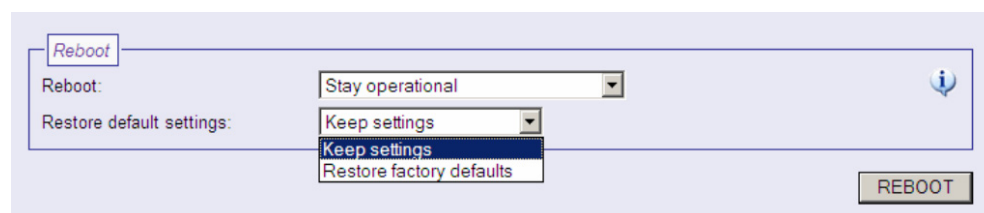

Figure 24. XNet 1800 SW Reboot options
- with the option 'Reboot', the switch will retain all its settings when rebooting with the option 'Keep settings' under 'Restore default settings' (figure 24). This can for instance be used after changing network settings. However, in the latter case, rebooting is best done from the Network page. The other option 'Restore factory defaults', should be used judiciously.